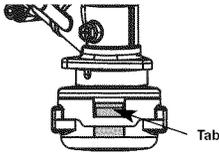

Fig. 19
1. Firmly press in on the tabs that are on each side of the cutting head (Fig. 19)